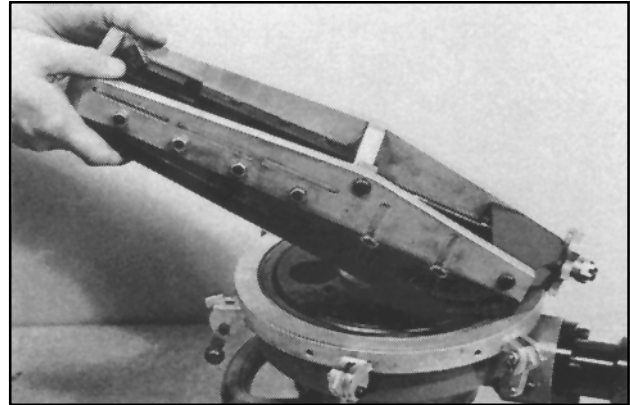

Fig. 3
(Fig. 3)
4. Mount flange facing tool slide on macrone rotating head. Align dowel pin holes in flange facer with the dowel pins on the machine head. (FIG. 3)